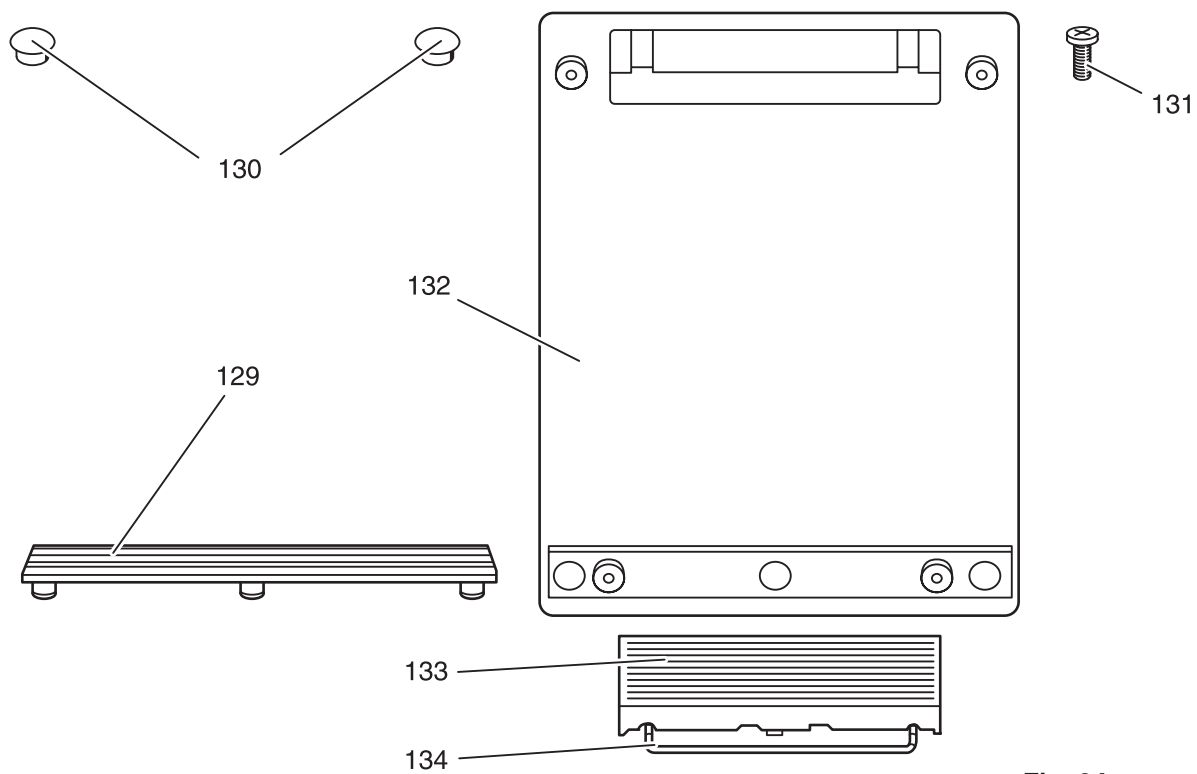

Fig. 84
- Lift rubber strip 129 and pull it out with its three feet (fig. 84).
- Remove the rectangular pedal 133 with guide 134 and take out contact spring 135 (fig. 84 and 85).
- Place contact spring 135 on the guide pin in the larger right section of pedal 133 (fig. 84 and 85).
- Turn pedal 133 around and push the right spring 136 on the right guide pin of the housing and the left spring 136 on the left guide pin in pedal 133 (fig. 84 and 85).
- Press the pedal further down, as far as it will go; at the same time insert guide 134 in its two open bearings (fig. 84).